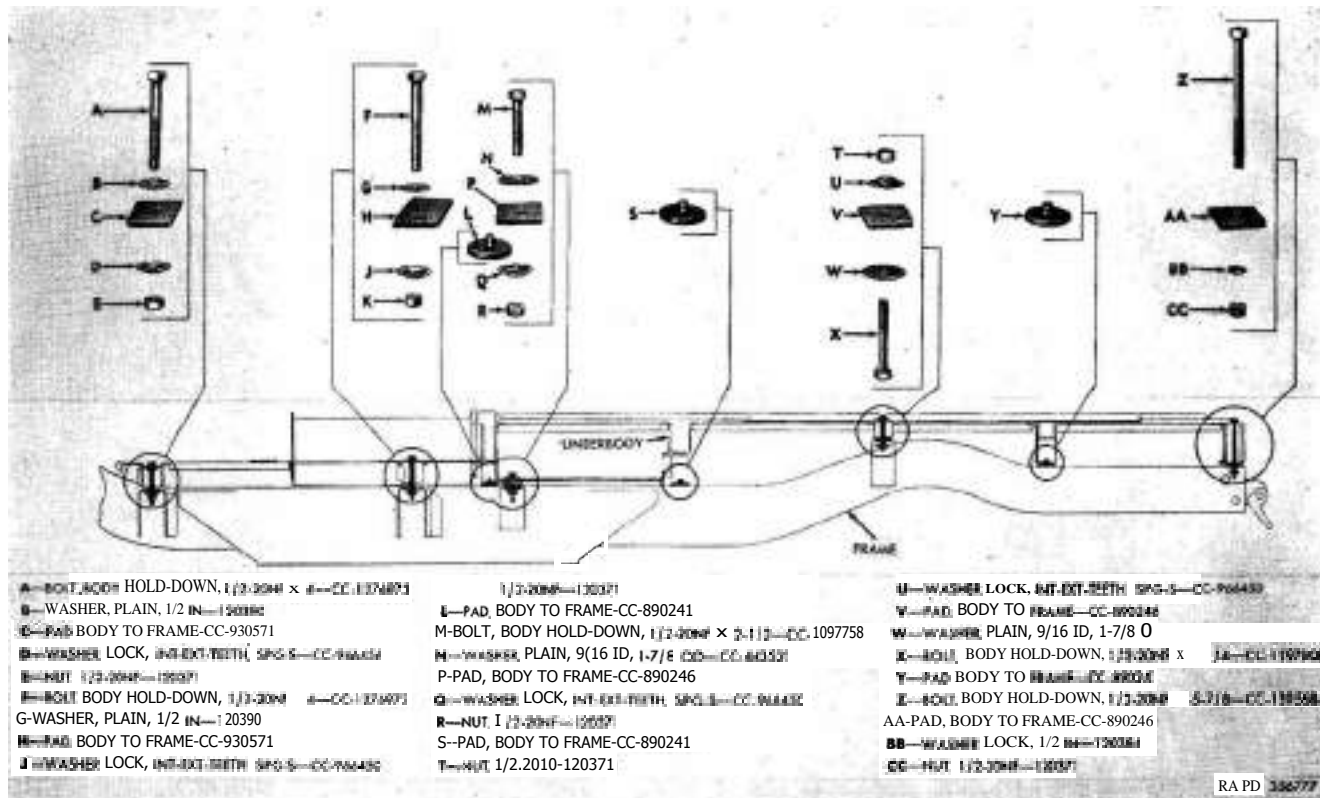

Figure 42. Ambulance body hold-down bolt and pad locations.
b. Install Ambulance Body (fig. 42).
- (1) Place ~~1/4-inch~~ plain washers (B) on the two ~~1/4-20NF~~ x 4 body hold-down bolts (A) and insert them in the front holes of the underbody.
- (2) Place ~~1/4-inch~~ plain washers (G) on the two ~~1/4-20NF~~ x 4 body hold-down bolts (F) and insert them in the second holes of the underbody.
- (3) Place 9/16 ID, 17/8 OD plain washers (N) on the two ~~1/4-20NF~~ x 2 1/2 body hold-down bolts (M) and insert them in the holes in tool compartment floor.
- (4) Place the two ~~1/4-20NF~~ x 57/8 body hold-down bolts (Z) in the rear holes in the underbody.
- (5) Attach all body-to-frame pads (C, H, L, P, S, V, Y, and AA) to the body support brackets with plastic-type gasket cement.
- (6) Lower body on frame and guide hold-down bolts through pads, brackets, and frame holes.
- (7) Place 9/16 ID, 1 7/8 OD plain washers (W) on the two ~~1/4-20NF~~ x 3 1/4 body hold-down bolts (X) and insert them from the bottom (heads down to prevent interference with rear springs) up through the body support brackets, pads, and underbody.
- (8) Install internal-external-teeth spring steel lock washers (D, J, Q, and U) and ~~1/4-20NF~~ nuts (E, K, R, and T) on the eight body hold-down forward bolts, and tighten nuts.
- (9) Install ~~1/4-inch~~ lock washers (BB) and ~~1/4-20NF~~ nuts (CC) on the two body rear bolts, and tighten nuts.
- (10) Connect fuel tank filler pipe and filler vent tube connections at fuel tank.